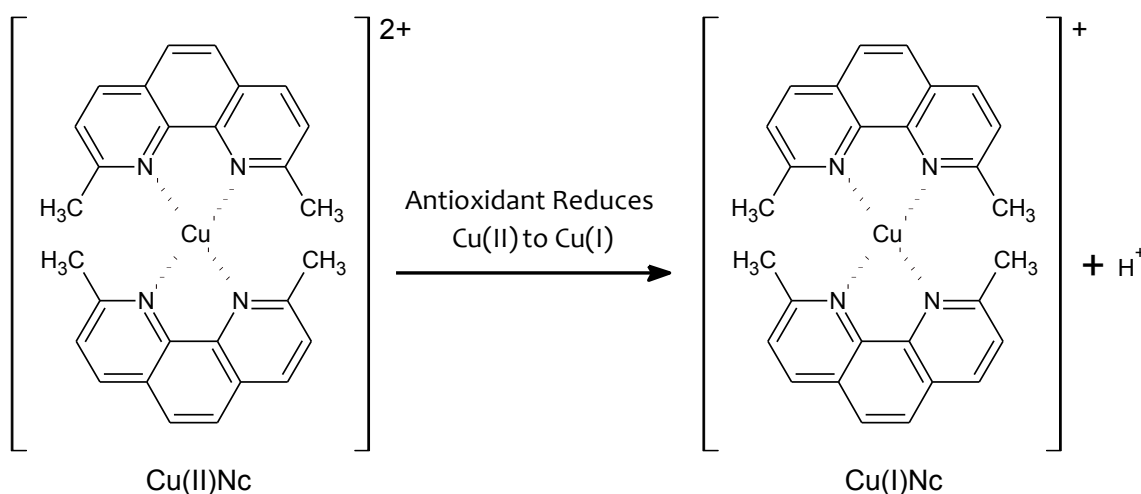

Figure 1. Reduction of the neocuproine/copper (II) complex.
This assay is based on the changes in absorption characteristics of the neocuproine (Nc) copper (II) complex when it is reduced by an antioxidant². The reduction potential of the sample or standard effectively converts Cu^{+2} to Cu^{+1} , thus changing the absorbance maximum, as shown in **Figure 1**. This reduced copper complex gives an absorption maximum at 450 nm. The calibration curve is generated using a known concentration of Trolox, with the data being expressed as μM Trolox equivalents.